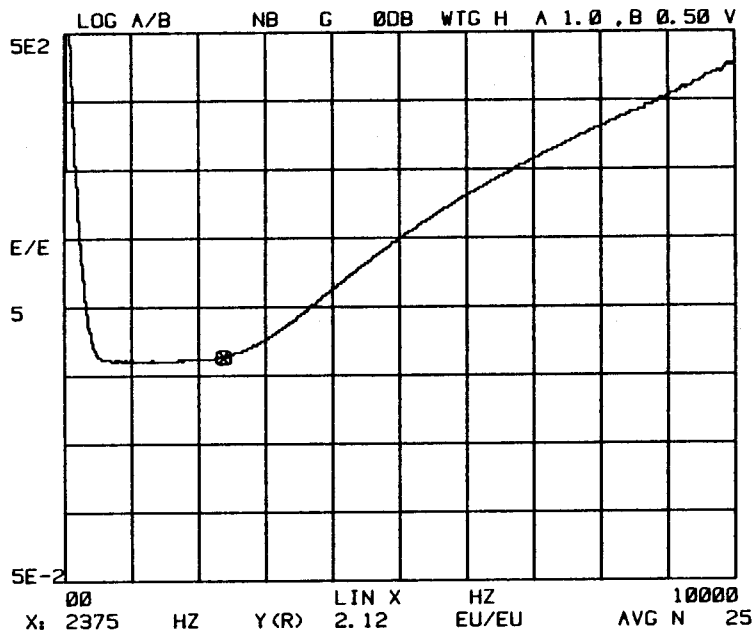

Figure 4-14. Display RATIO: Interchange A and B
- d. Press the DISPLAY group $\begin{matrix} A, B \\ \rightleftarrows \end{matrix}$ touch control and compare the display with Figure 4-14.